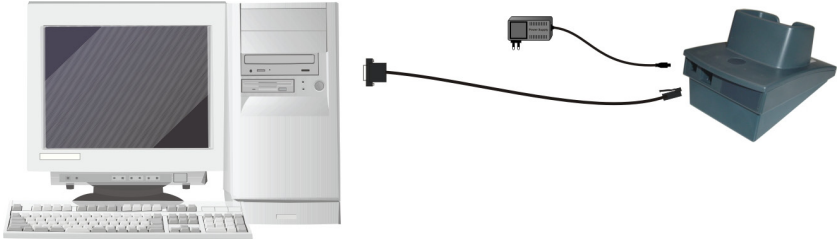

Figure 5 - RS232 Connection
1. Make all system connection as shown in Figure 5;